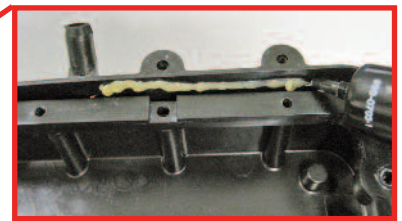

Fig. 4
6. Install the K&N Filtercharger® onto the stock air filter cage. (Fig. 4)